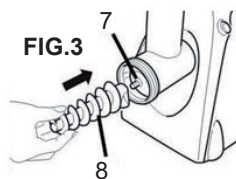

FIG.3
Position the conic extension worm (8) on the worm (7), as illustrated in fig. 3, and insert the conic sieve (3) into the feed channel.